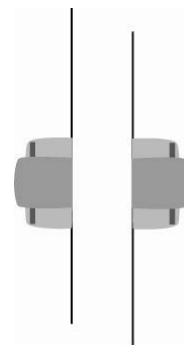

Fig. 5
6. For installation of hinges on a single, shared panel and shared system holes (back to back) (see front view in Fig. 5), you must remove each mounting plate's two fastening screws and replace them with #56514 Hole Sleeves and Mounting Bolts (from each side), tightening the bolts from each side of the single panel, same hole into the sleeve.